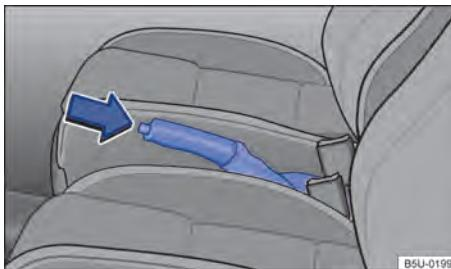

Fig. 87 Between front seats: handbrake lever.
- Press the interlock button and pull the handbrake lever upwards → Fig. 87 (arrow).
- The handbrake is pulled when the indicator lamp (O) lights up in the instrument cluster, while the ignition is switched on.
- Pull the handbrake lever slightly upwards and press the lock button → Fig. 87 (arrow).